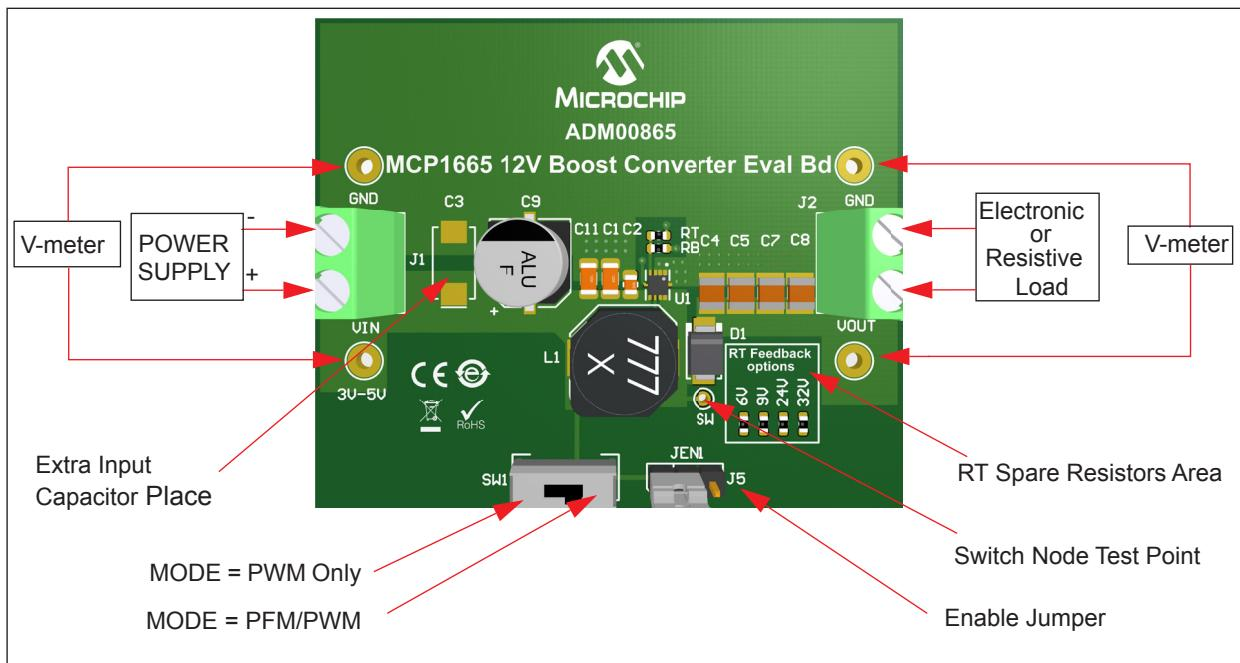

FIGURE 2-2: MCP1665 12V Output Boost Regulator Evaluation Board Setup.
1. Connect the input supply as shown in Figure 2-2. The input voltage should not be higher than 5V.
An extra capacitor place (C3) is available on the MCP1665 12V Output Boost Regulator Evaluation Board (see Figure 2-2).